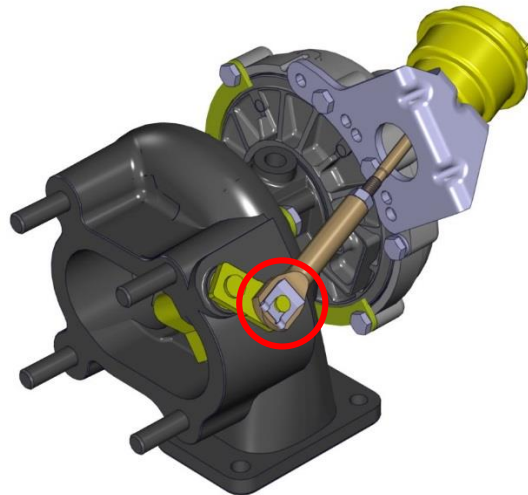

Figure 4: Waste Gate Circlip
3. Install a new the spring loaded circlip E4A-41-100-801. Refer to figure 4
2. Install a new the spring loaded circlip E4A-41-100-801. Refer to figure 4.
2. If not yet installed, install a new spring loaded circlip E4A-41-100-801. Refer to figure 4.